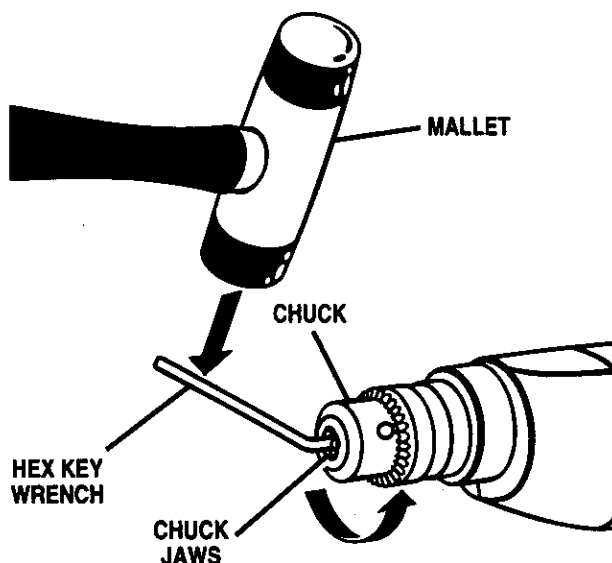

Fig. 9
See Figure 9.
- It can now be unscrewed by hand. See Figure 9.